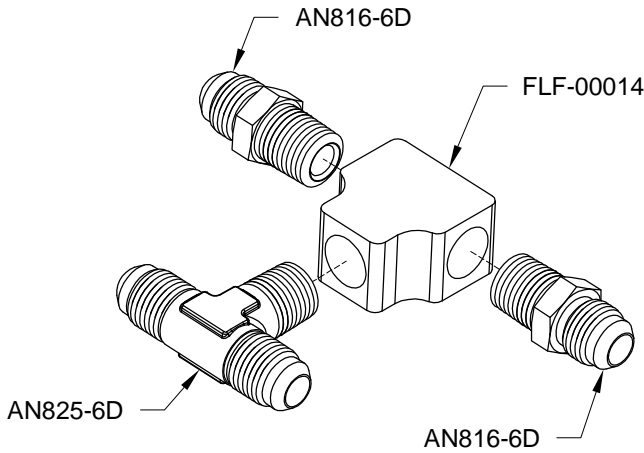

FIGURE 1: BYPASS FITTING ASSEMBLY
Step 1: Install the fluid fittings into the FLF-00014 as shown in Figure 1.